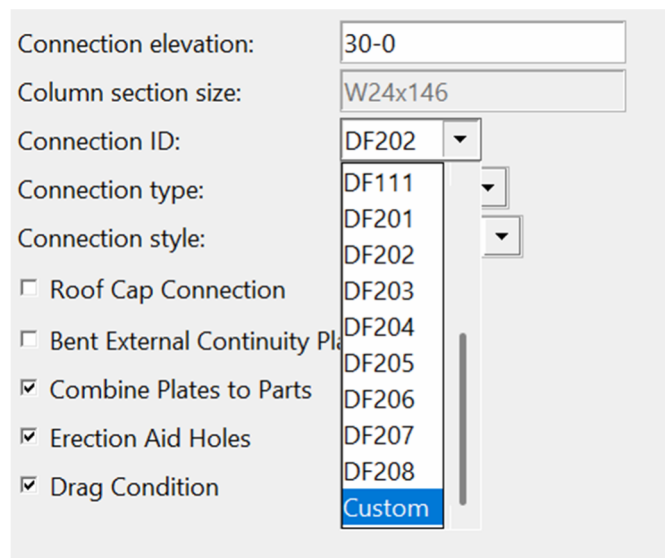

Figure 4-3. Manual Application Settings
- Under *General Settings*, indicate the **Custom** from the **Connection ID** drop down (see Figure 4-3).